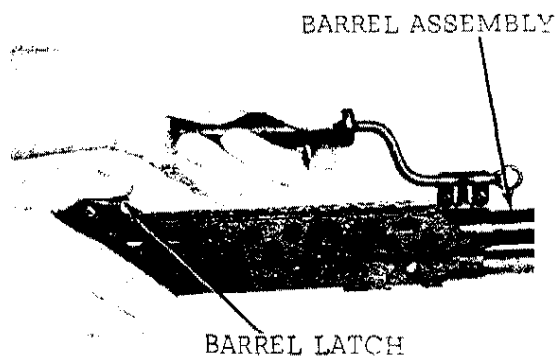

FIGURE 18. REMOVING THE BARREL ASSY.
(3) Depress the barrel latch (figure 18) and remove the barrel assembly.